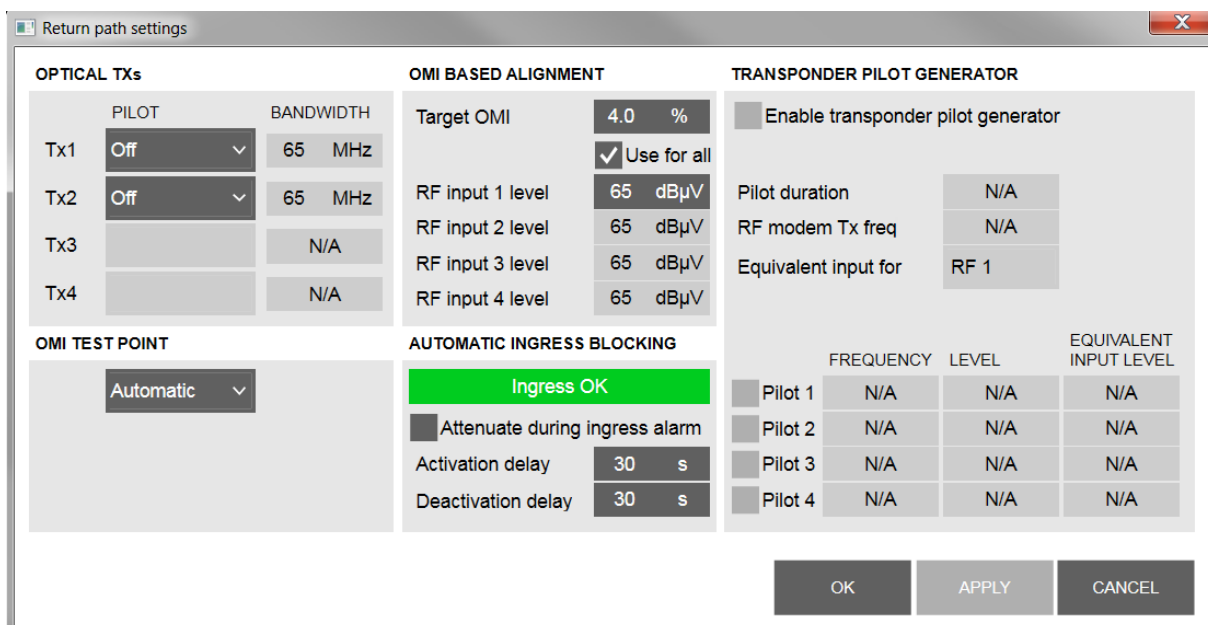

Fig. 14
- **Return path settings** (fig. 14):